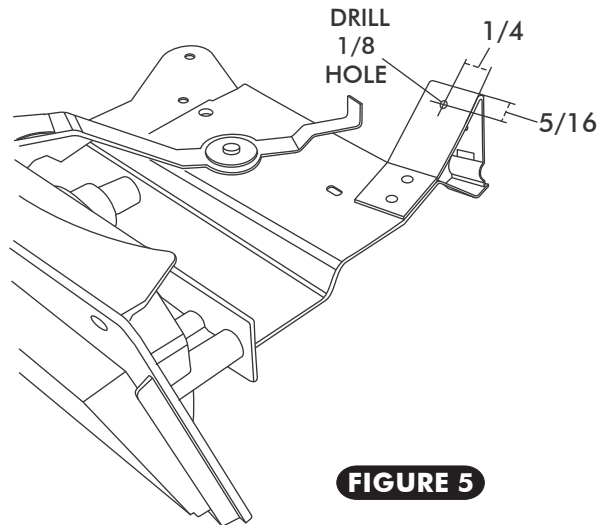

FIGURE 5
- DRILL 1/8 HOLE IN CONTROL PANEL AS SHOWN IN FIGURE 5 BELOW.